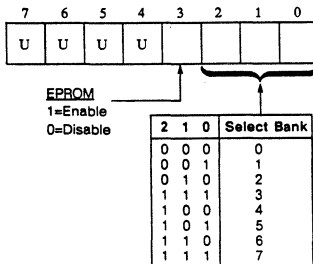

Figure 3-12. EPROM Select Register (46E8h Write Only—Micro Channel)
The EPROM Select (ES) Register is used by the CIU to enable EPROM bank selection and select a bank of EPROM. Figure 3-12 shows the register